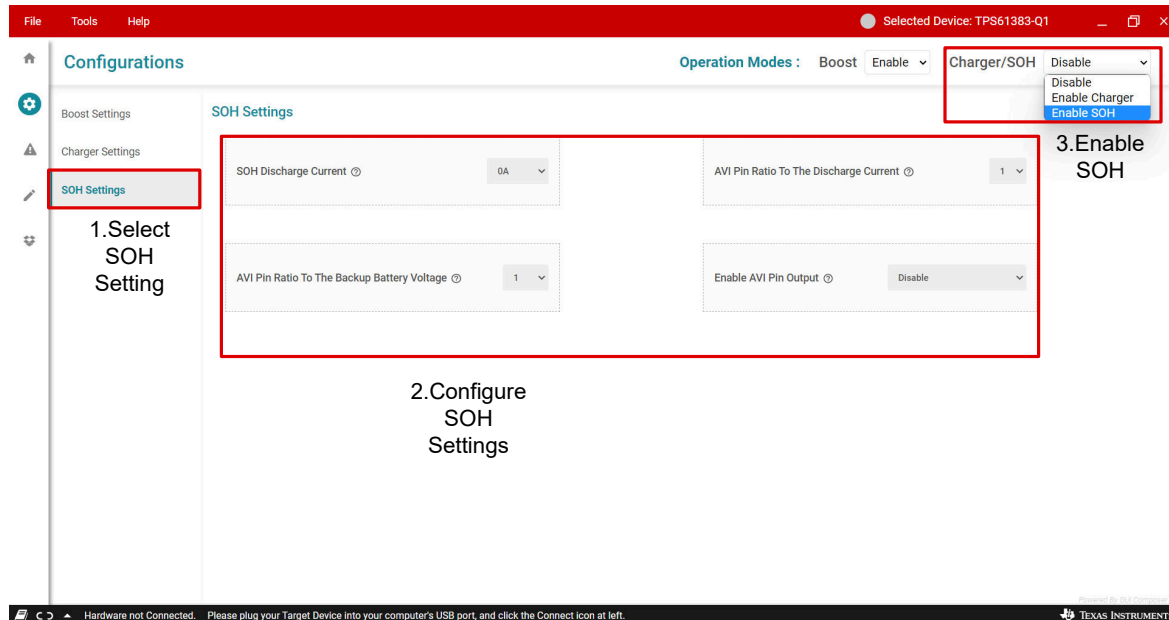

Figure 3-5. SOH Settings Sheet
6. Select the *SOH Settings* button and switch to the SOH Settings Sheet (see Figure 3-5). Set the SOH discharge current, AVI pin output ratio, AVI output, and so forth according to the design target.